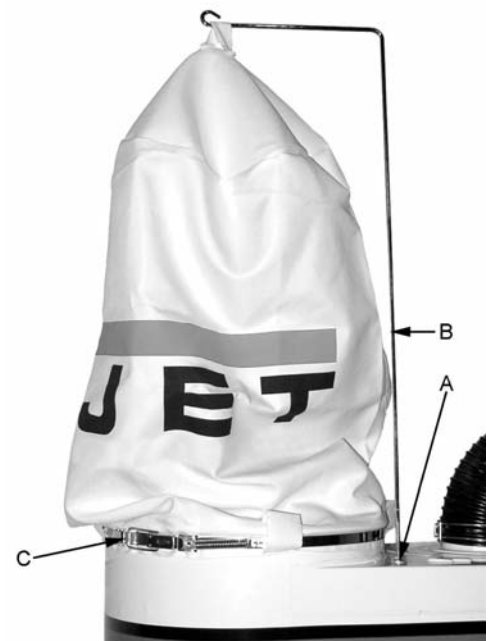

Figure 5
Referring to Figure 5:
1. Insert the *snap ring* of *collector bag* into the bottom of *housing* at an angle (Figure 5).